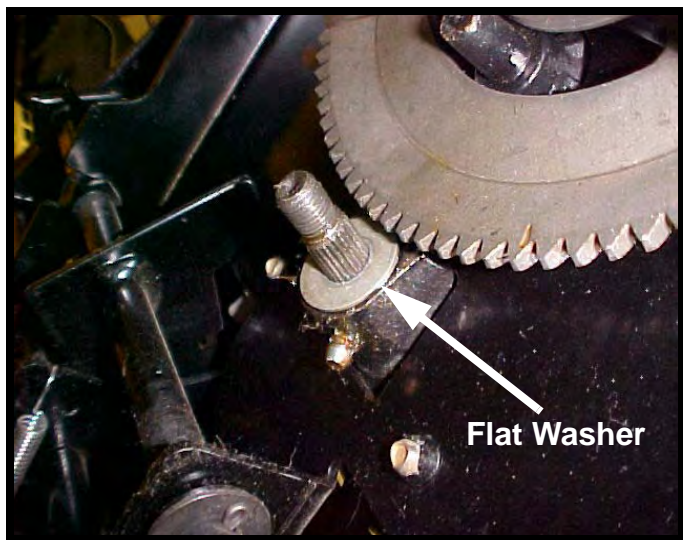

FIGURE 3
12. Place the Flat Washer on the Steering Shaft. Placing grease on the back of the washer will help hold it in place. See Figure 3.